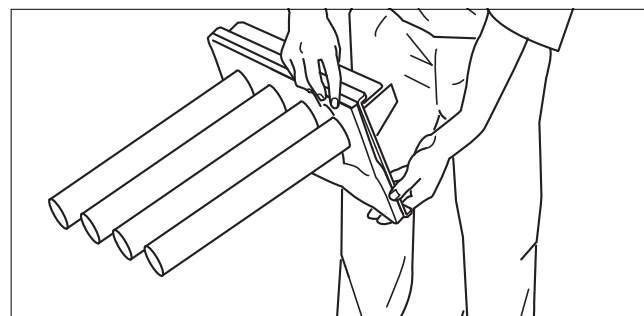

Fig. 36 Swinging burner
- ▶ Remove remaining water by swinging the burner (→ Fig. 36).